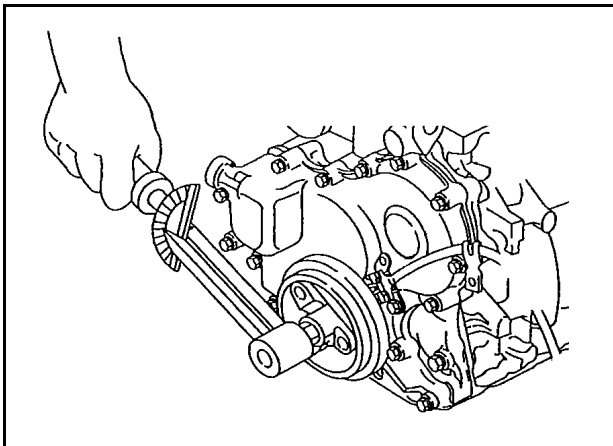

Fig.16-Installing Crankshaft Pulley
9. Install crankshaft pulley with timing mark at 12 o'clock position (#1 cylinder), Fig.16.